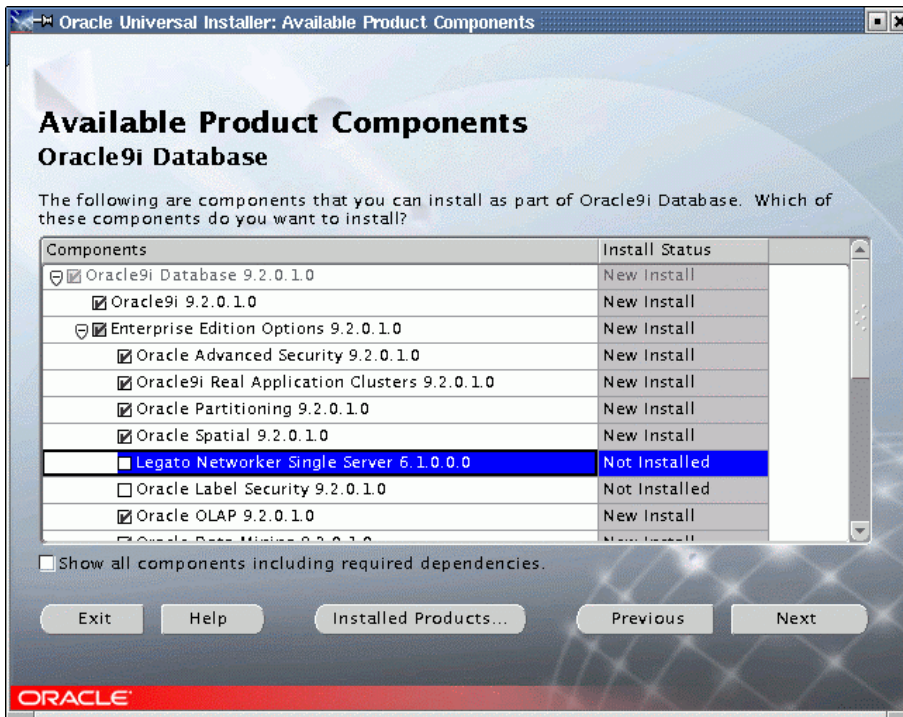

Figure 42. Available Components
- The Available Product Components window (Figure 42) allows you to select components to be installed. For a Real Application Cluster configuration, be sure to select at least the Oracle Database, Real Application Clusters, Partitioning and Netlistener components. When all desired components have been selected, click **Next** to continue.